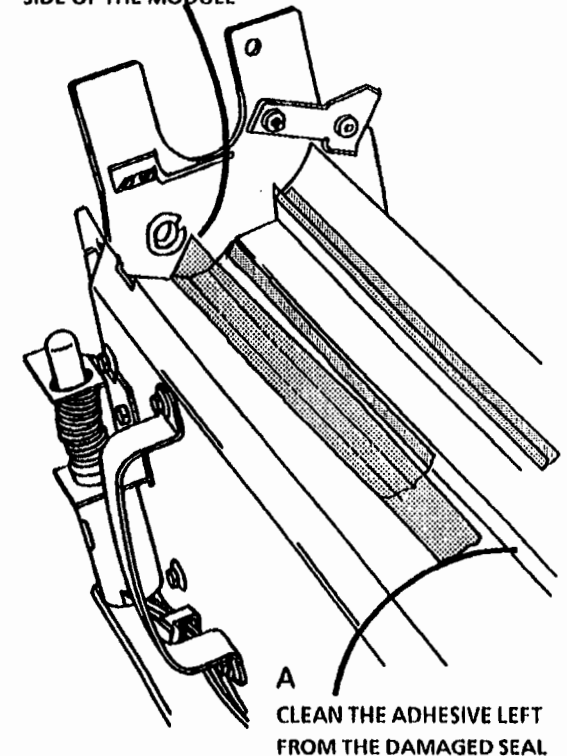

Figure 2. Place the Contamination Seal in the Module
1. (Figure 2): Place the new Contamination Seal in the Xerographic Module.